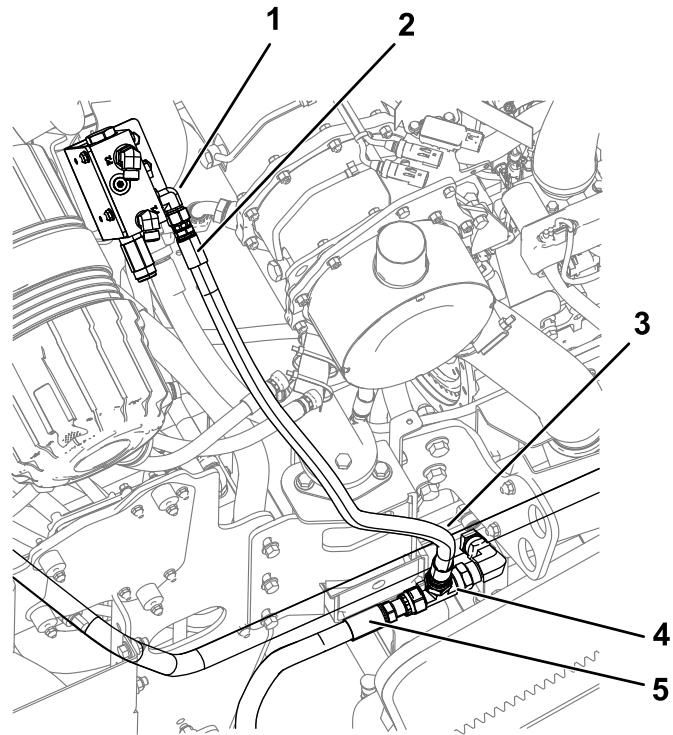

Figure 5
5. Torque the fittings (Figure 5):